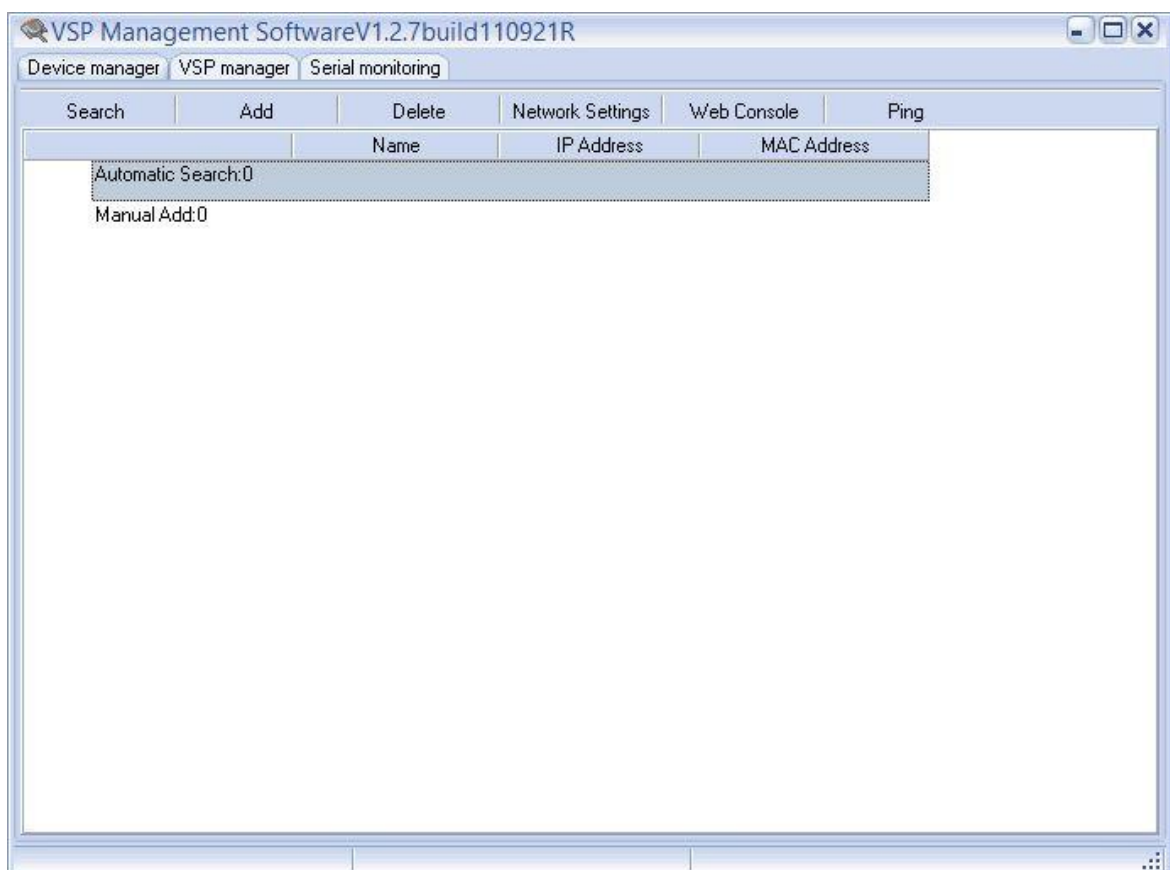

FIGURE 4.16 – VSP MANAGEMENT SOFTWARE
- 4) Run the VSP management software. (SEE FIGURE 4.16).